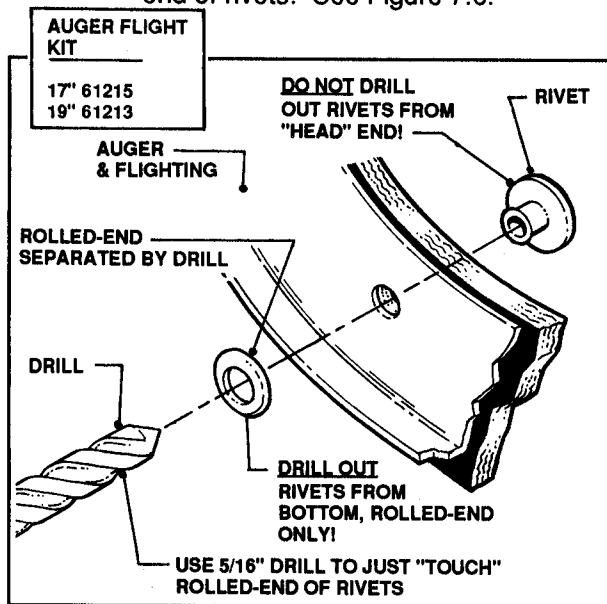

FIGURE 7.6
- (1) Tilt Snow Thrower back on Handlebar.
- (2) Remove worn Flighting by drilling off bottom end of rivets. See Figure 7.6.